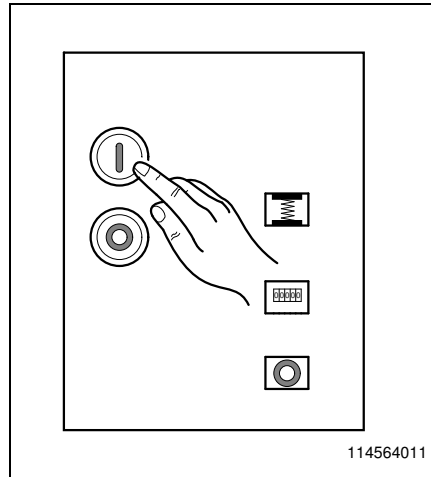

Fig. 16
- Press push-button ON (Fig. 16).